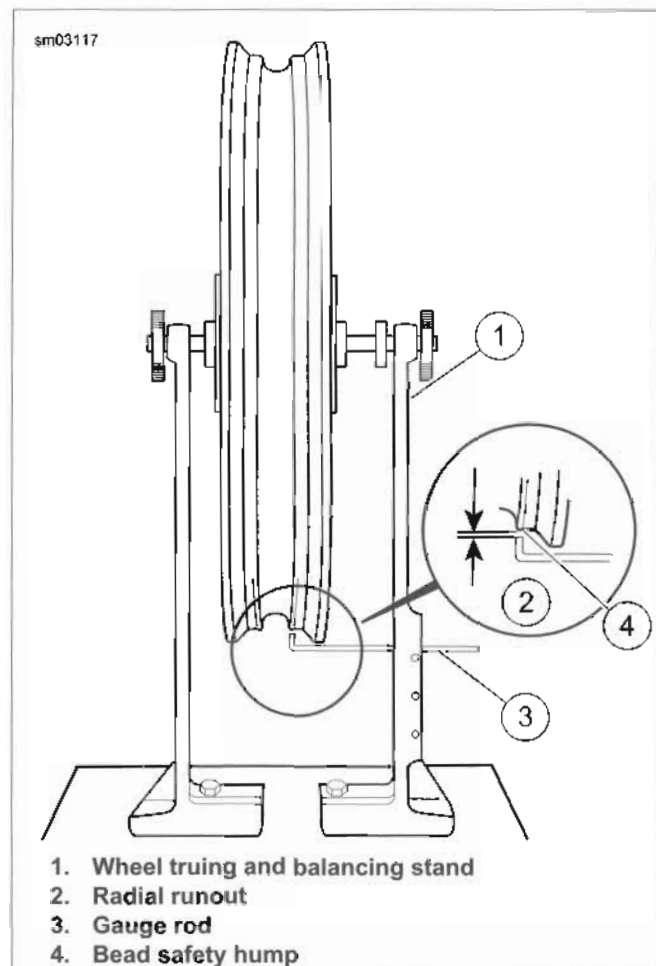

Figure 2-16. Checking Radial Runout
1. See Figure 2-16. Mount wheel in WHEEL TRUING AND BALANCING STAND (Part No. HD-99500-80).